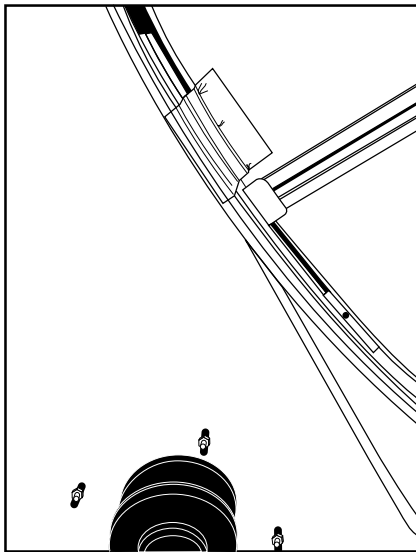

Fig. 190 — Belt Attached to Wheel Rim
3. At location near pulley, attach the hook end of belt to wheel rim with tape, making sure that narrow side of "V" belt is positioned against rim and link is covered by the tape (see Fig. 190).